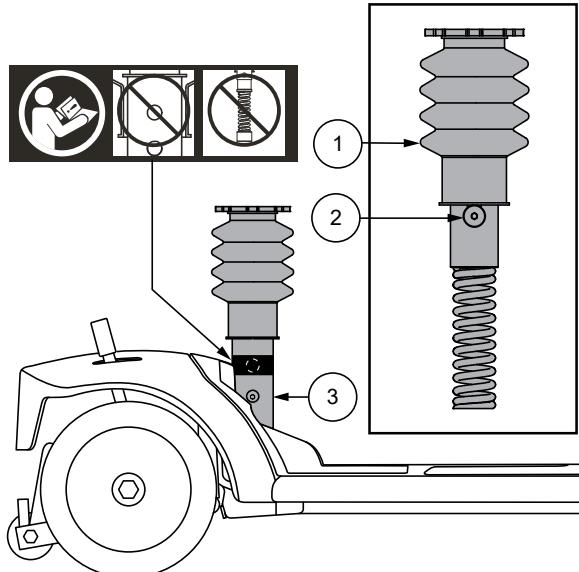

Figure 14. Seat Suspension Adjustment
### TILLER ANGLE ADJUSTMENT (See figure 14)
2. Remove the upper seat post from the vehicle by removing the shoulder bolt from the lower portion of the seat post, then lifting the post straight up and off the vehicle. See figure 14.
**NOTE:** *Do not install the seat post in the upper hole with the suspension seat. See figure 14. Doing so will make the suspension seat post inoperable.*